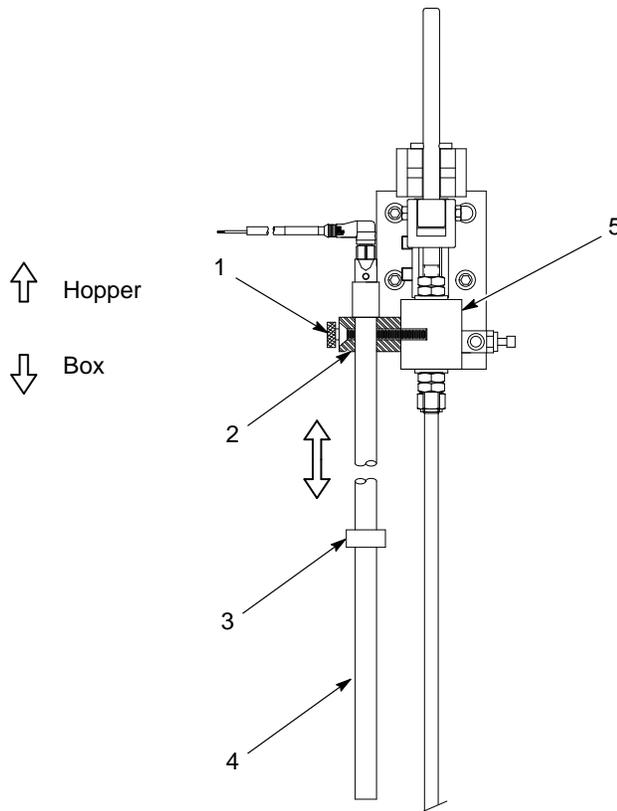

Figure 4-1 Level Sensor Probe Adjustment
2. See Figure 4-1. Touch the **LANCE UP** button to raise the lance assembly (5).
3. Loosen the thumb screw (1) and slide the level sensor probe (4) down until it stops against the top of the probe bracket (2). Tighten the thumb screw.
3. Loosen the thumb screw (1). Slide the level sensor probe (4) up until the collar (3) stops against the bottom of the probe bracket (2), then tighten the thumb screw.